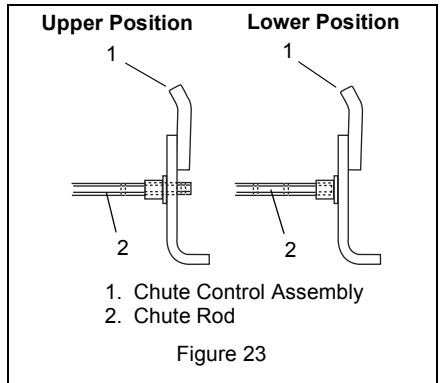

Figure 23
6. Align correct chute rod holes in chute control assembly as shown in Figure 23, and then secure chute rod in position with hair pin remove in step 1.